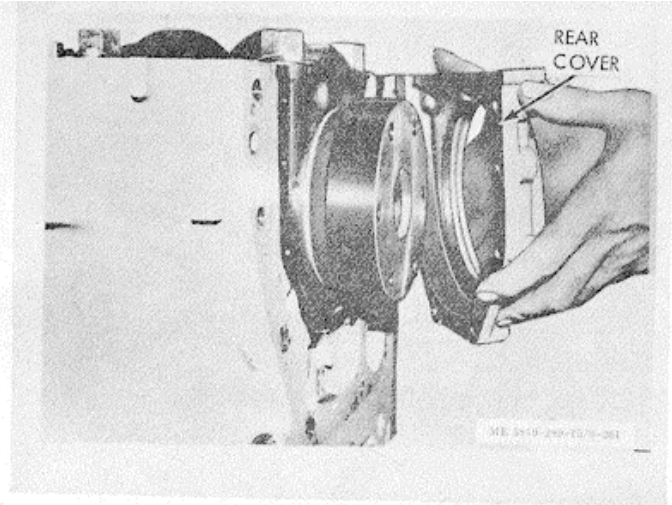

Figure 3-193. Rear cover removal.
(1) Remove capscrews and lockwasher securing cover to block.
(2) Slide rear cover, seal and gasket off the crankshaft (fig. 3-193).
(3) Discard seal and gasket.